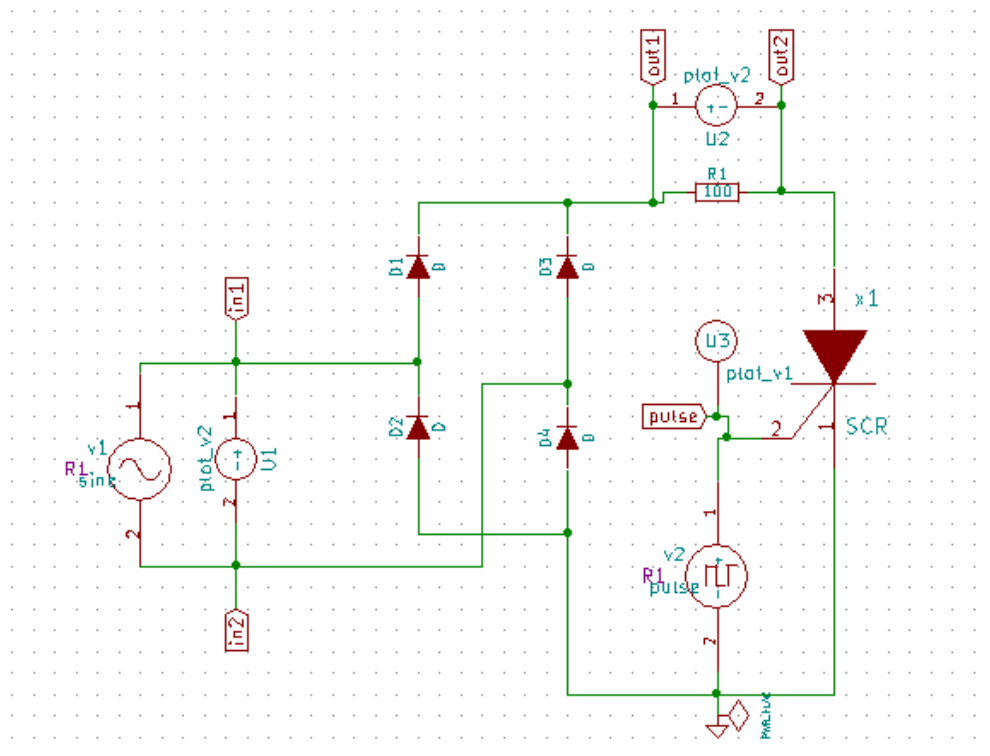

Figure 11.26: Schematic of Full Wave Rectifier using SCR
- **Creating Schematic:** To create the schematic, click the very first icon of the left toolbar as shown in the Fig. 11.2. This will open KiCad Eeschema. After the KiCad window is opened, to create a schematic we need to place the required components. Fig. 11.3 shows the icon on the right toolbar which opens the component library. After all the required components of the Full Wave Rectifier using SCR circuit are placed, wiring is done using the Place Wire option as shown in the Fig. 11.4. Next step is ERC (Electric Rules Check). Fig. 11.5 shows the icon for ERC. The Fig. 11.26 shows the complete Rectifier circuit using SCR after removing the errors.